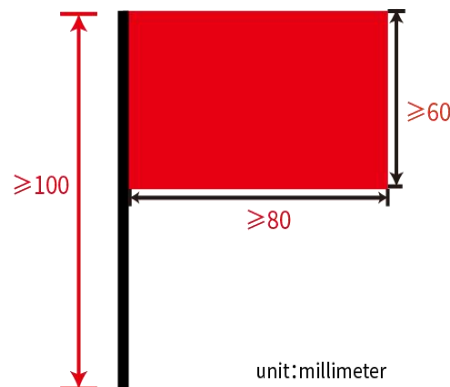

Fig 5.2 Environmental Flag
- The shape of the environmental flag structure is shown in Fig 5.2. It must be a regular flag shape; no shaped flags can be produced.